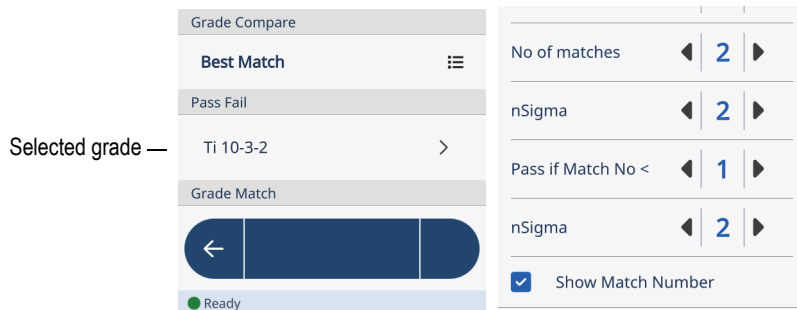

Figure 2-62 Pass Fail reference grade
- Tap the left or right arrow next to **Pass if Match No <** and **nSigma** to set boundaries for the pass or fail (see Figure 2-62 on page 77).